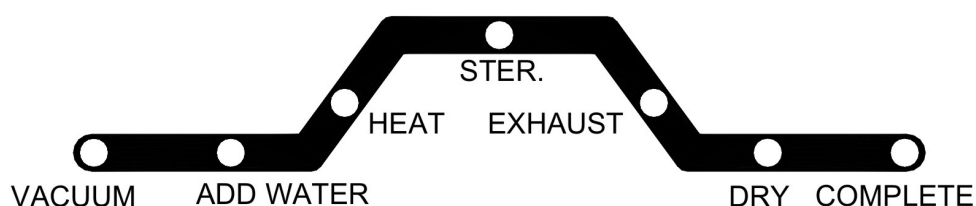

Figure 17
D. Press the START Button , the setting temperature, duration, and dry time displayed two times on the three-digit display, and then the sterilizer will automatically run through the selected program. The current progress of the sterilization cycle is indicated by the illuminated LED on the Process Status Indicator. (Figure 17)